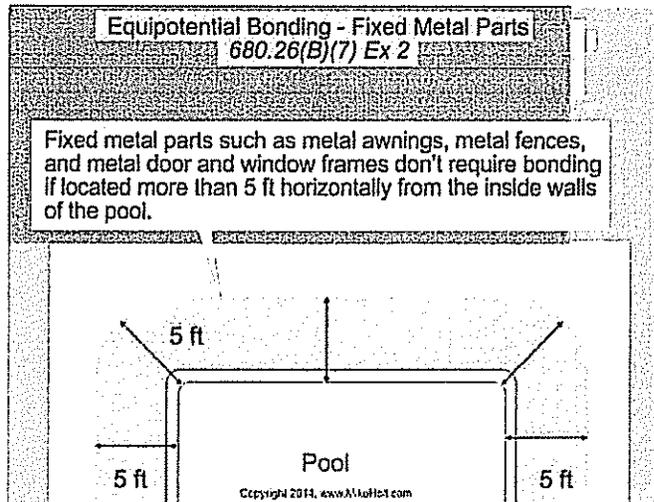

Figure 680-47
*Ex 2: If located more than 5 ft horizontally from the inside walls of the pool structure. Figure 680-47*